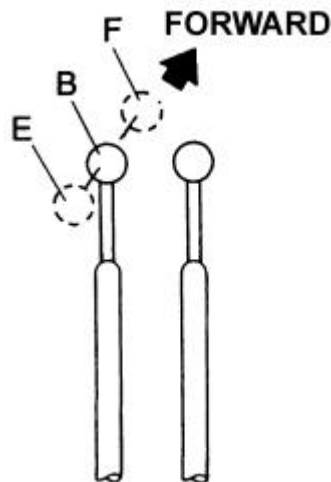

Fig. 4.31. Bucket Control Lever Positions (Standard Version)
4.17.3. BUCKET CONTROL LEVER POSITIONS (Fig. 4.31)